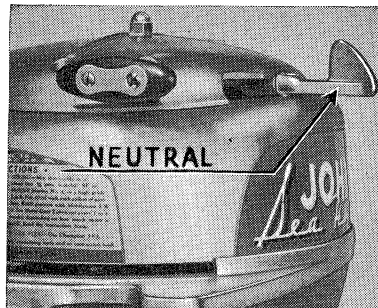

Fig. 11
5. Set neutral control lever to "Neutral" position, Fig. 11.